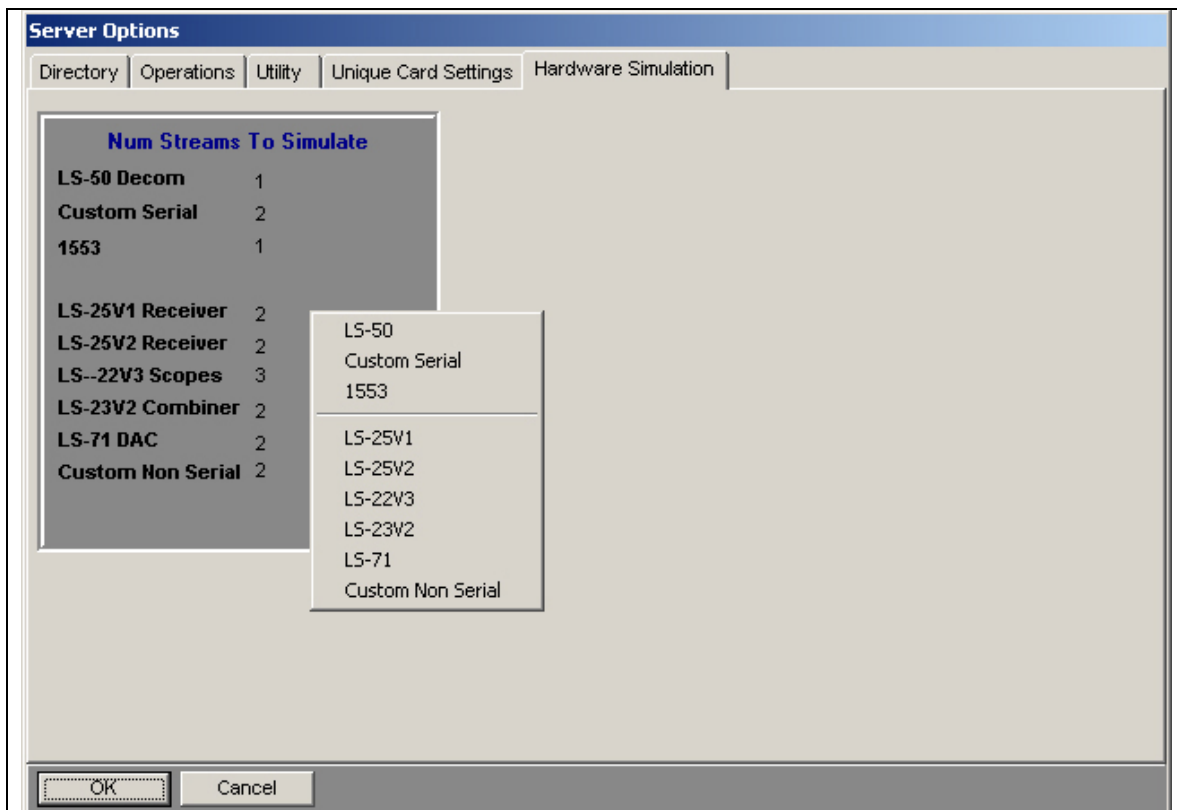

Figure 2-16 Server Options - Hardware Simulation Tab
The Hardware Simulation Tab, shown in Figure 2-16 below, allows the user to setup the number of streams that LDPS will simulate for each card type supported by the system. Note: The “Sim” check box for the particular card on the server device manager (see paragraph 2.12 on page 63) must also be checked to enable hardware simulation of the device. To set the number of streams for a device, place the cursor in the **Num Streams To Simulate** area and right click. Select the device from the list and enter the number of streams in the resulting dialog box. Note: The 1553 card is a special case. It can have only have one stream, but that stream has eight (8) busses.